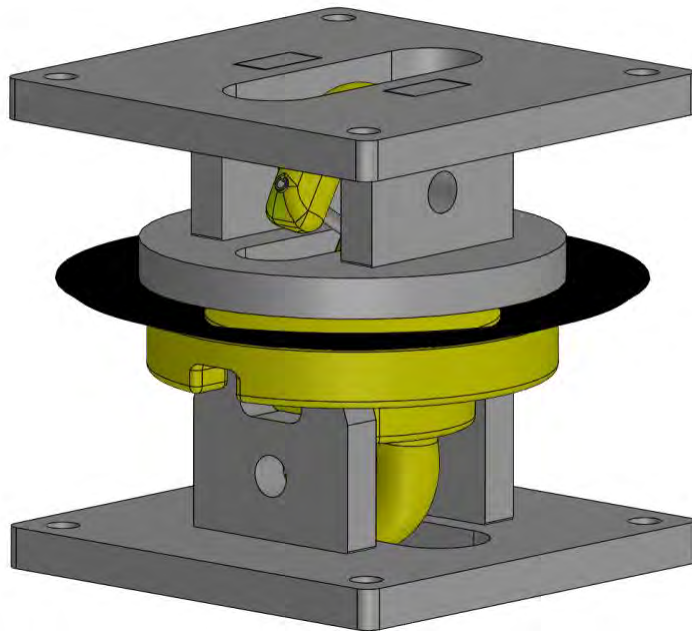

Figure 3: CL2 disc with press jig in Closed position
3. Close press, applying force to Saddle (see Figure 3). DO NOT exceed pressure of 6 Tonne (13,200lb)